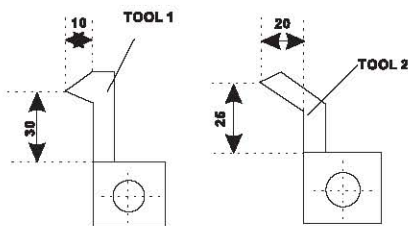

Figure 6-1
2. According to the size of TOOL1 and datum TOOL, determine the position of TOOL relative to zero of absolute coordinate and datum tool. As Figure 6-1. The relative size of TOOL 2 is as follows X axis $25-30=-5$, Z axis $20-10=10$.